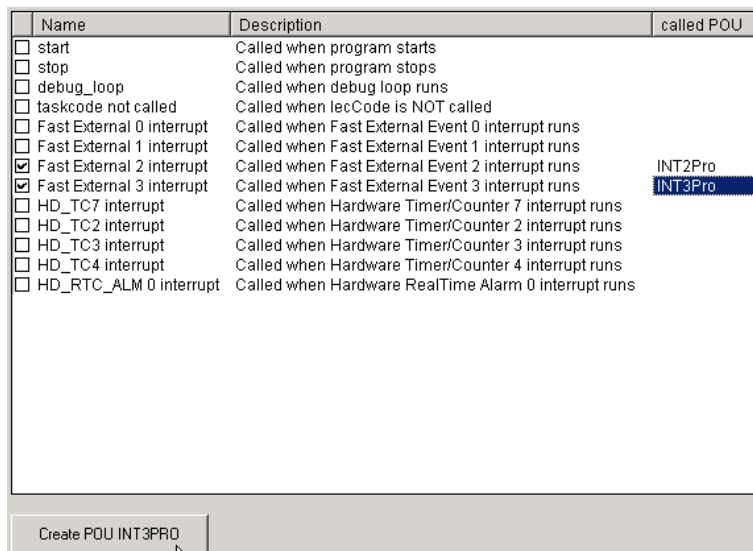

Figure B-4-3
(4)Click Create POU to build sub-programs INT2Pro, INT3Pro after Fast External interrupt 2 and Fast External interrupt 3, as shown in figure B-4-3.